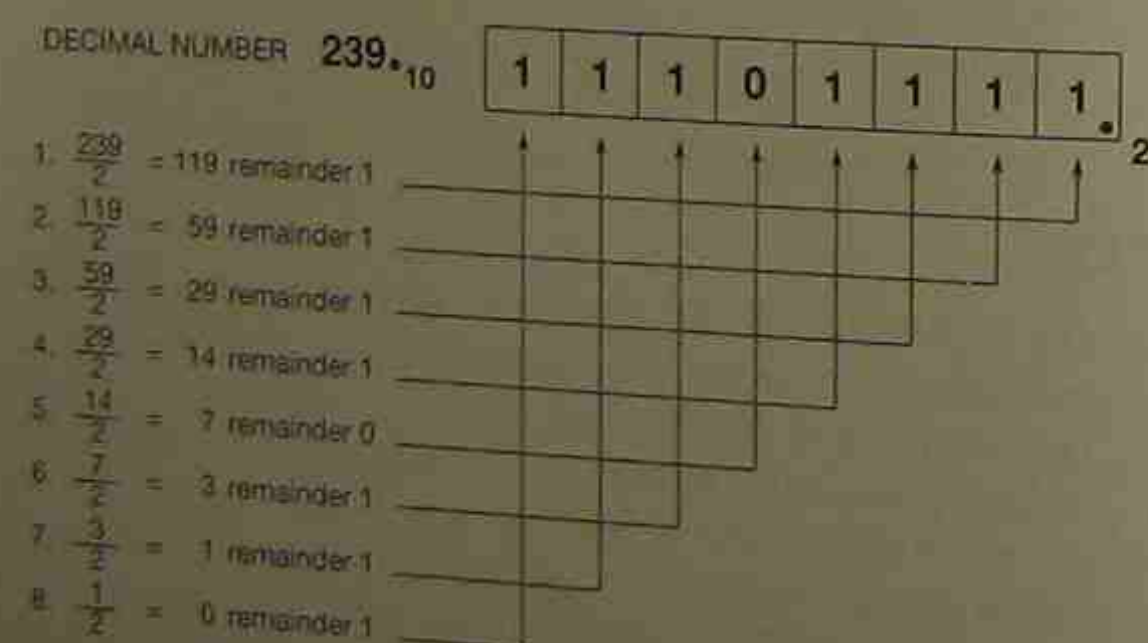

Figure 6-5 Converting a Decimal Number to a Binary Number
To convert a decimal number into a binary number, or to any numbering system for that matter, use the following procedure as shown in Figure 6-5. Divide the decimal number by the base you wish to convert to, in this case 2. The remainder is the 1s value (see Step 1 in the figure). Now divide the quotient from the first division again; the remainder becomes the value that is placed in the 2s location (see Step 2). The quotient of each preceding division is then divided by the base 2 until the base can no longer be divided (see Step 8), and the remainder (1) becomes the last digit in the binary number.